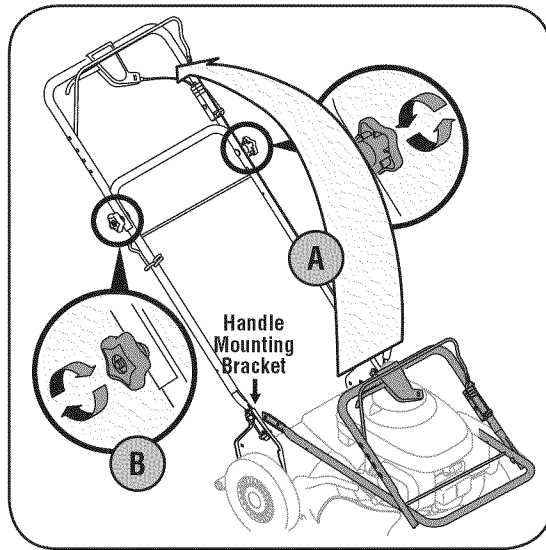

Figure 3-1: Unfold handle and tighten hardware.
- a. Pull up and back on upper handle as shown in Figure 3-1. Make certain the lower handle is seated securely into the handle mounting brackets.